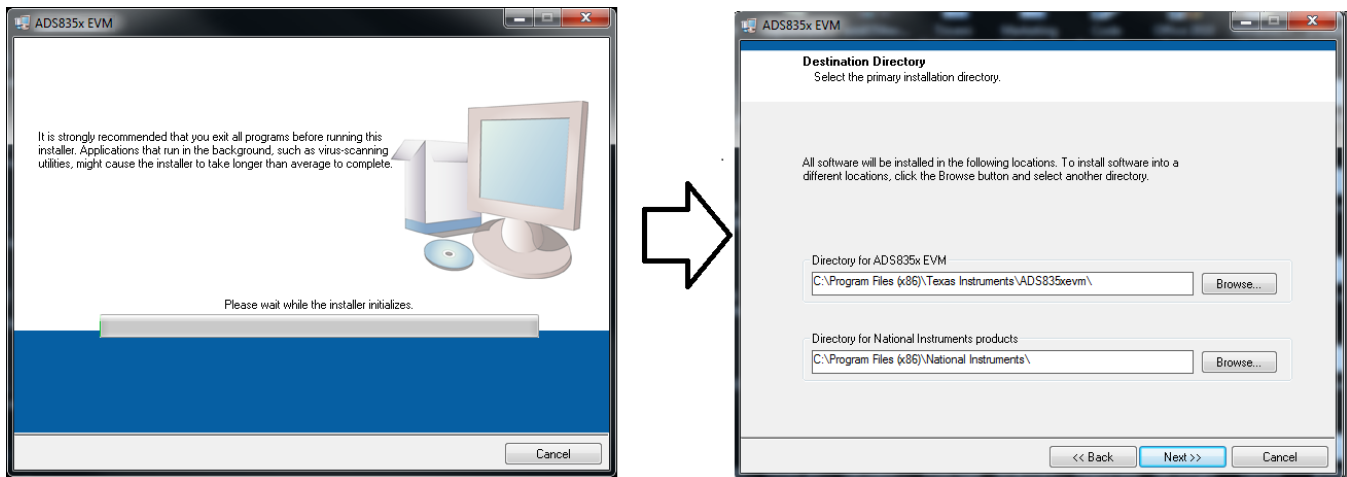

Figure 11. Welcome Screen and Destination Directory Screens
5. A prompt appears with the destination directory; select the default directory under: ...|Program Files(x86)|Texas Instruments\ads835xevm, as shown in Figure 11.